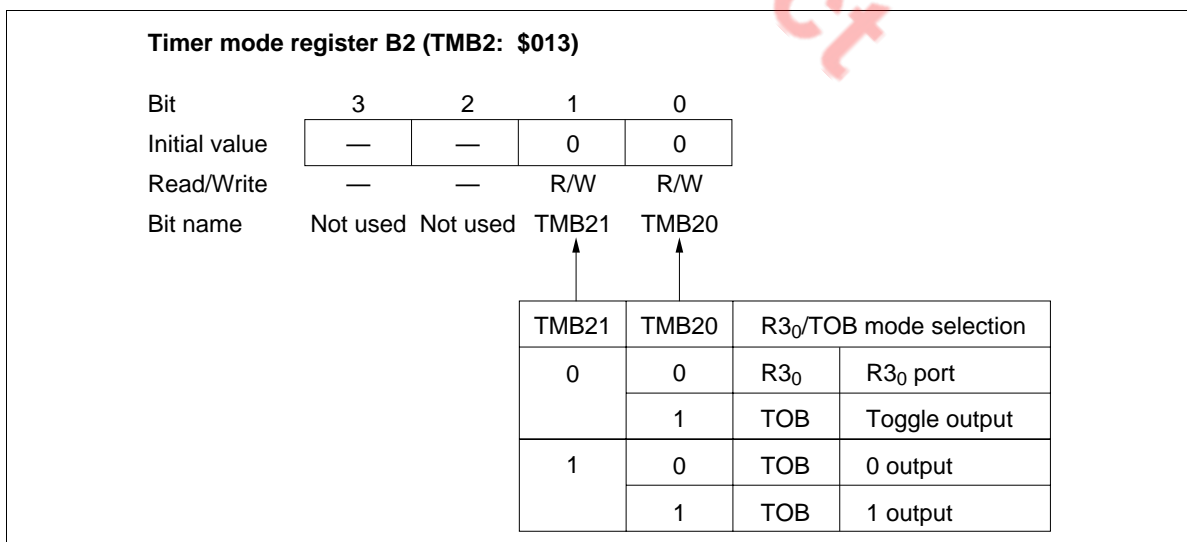

Figure 45 Timer Mode Register B2 (TMB2)
- Timer mode register B2 (TMB2: \$013): Two-bit read/write register that selects the timer B output mode as shown in figure 45. It is reset to \$0 by MCU reset.